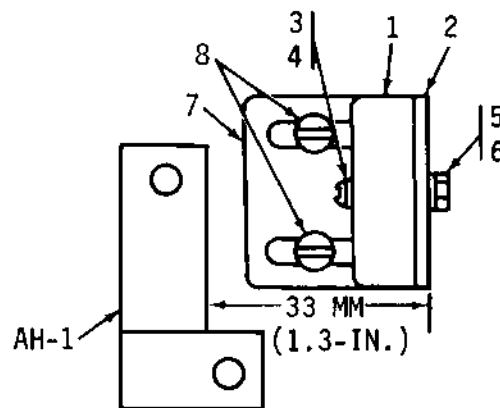

Figure 5-10. LEFT REED SWITCH (AG-1) STATIC-ADJUSTMENT
A. LEFT REED SWITCH - STATIC ADJUSTMENT (SEE FIG. 5-10)